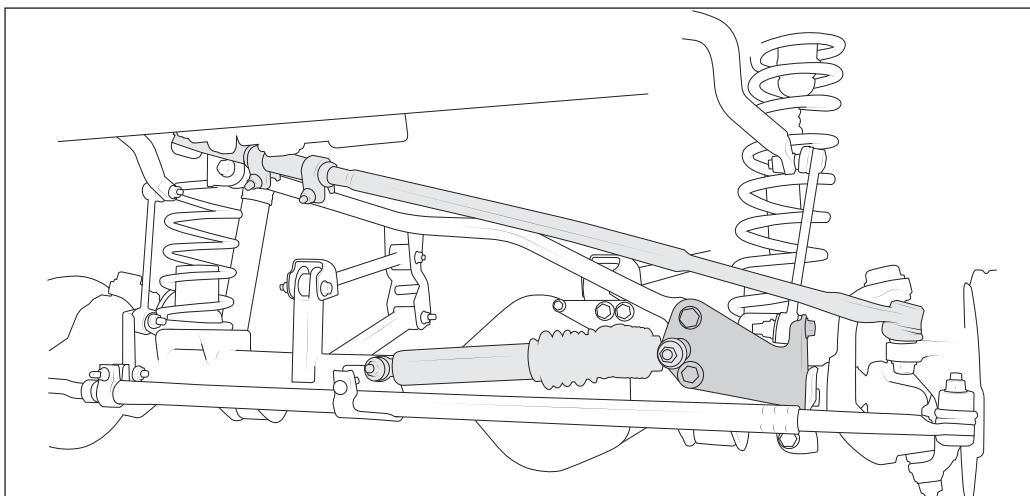

Figure 31
- B. Insert original track bar bolt and flag nut through the passenger-side front axle brackets and track bar but DO NOT tighten at this time (refer to Fig. 31)